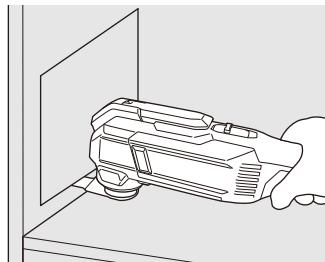

Fig. 14
- (2) Lightly place the application tool on the material and move the application tool forward at a pace where the movement isn't slowed. (Fig. 14)